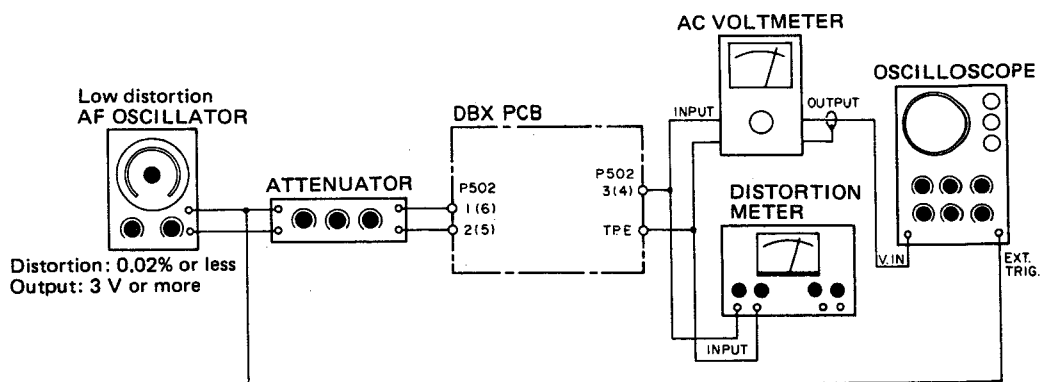

Fig. 5-12
2. Make the Fig. 5-12 connections, then feed a 1 kHz/-8 dB (308 mV) input signal to the INPUT terminal. Adjust R55/R65 (DECODING LEVEL) so that AC voltmeter reads -8 dB (308 mV).
3. Check that when the input signal is 100 Hz/-8 dB (308 mV), then 10 kHz/-8 dB, the output signal from 3(4) terminal (OUTPUT) deviates by -1 dB $\pm$ 0.5 dB, then +5 dB $\pm$ 0.5 dB from -8 dB (reference), respectively so that output, as a voltage value, should be 652 mV to 731 mV for 100 Hz, and 1.30 V to 1.46V for 10 kHz.